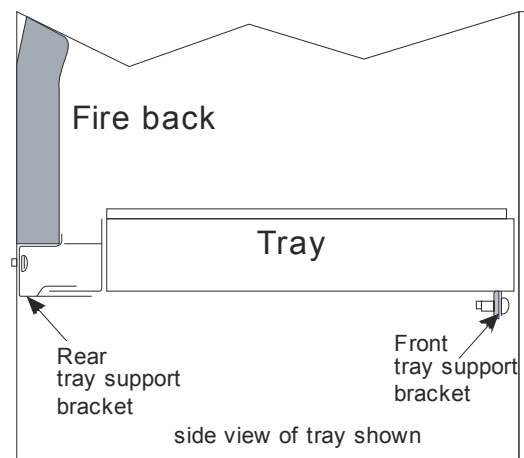

Figure 58
5. Replace the burner tray ensuring that the rear of the burner tray assembly slots into the rear support (see **Figure 58**).